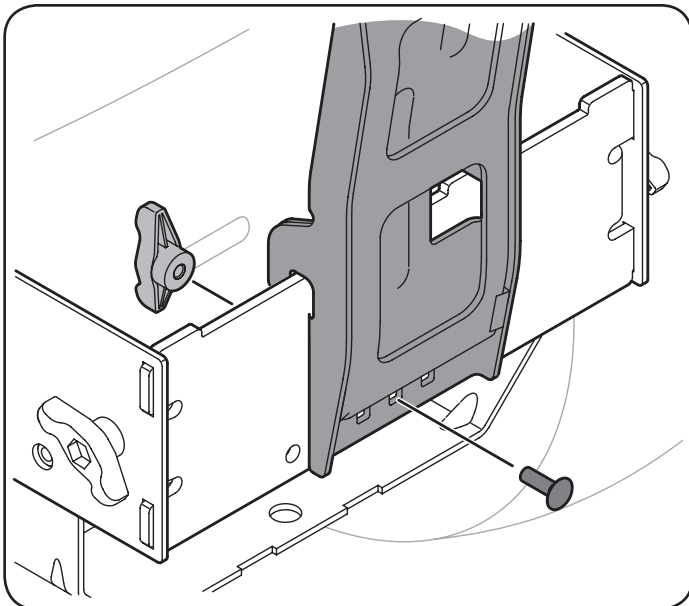

Figure 11
3. Secure the bag support assembly to the mounting assembly using a carriage bolt (710-0276) and wing knob (720-04122) from hardware pack 689-00312. See Figure 11.